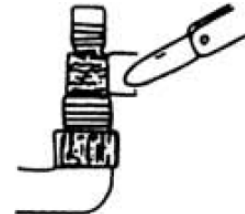

Fig. 3
**N.B.:** For large diameter hoses and to obtain the optimum discharge output, it will be necessary to cut the end of the universal fitting (4) so as to only keep the section suitable for the hose used (Fig.3).